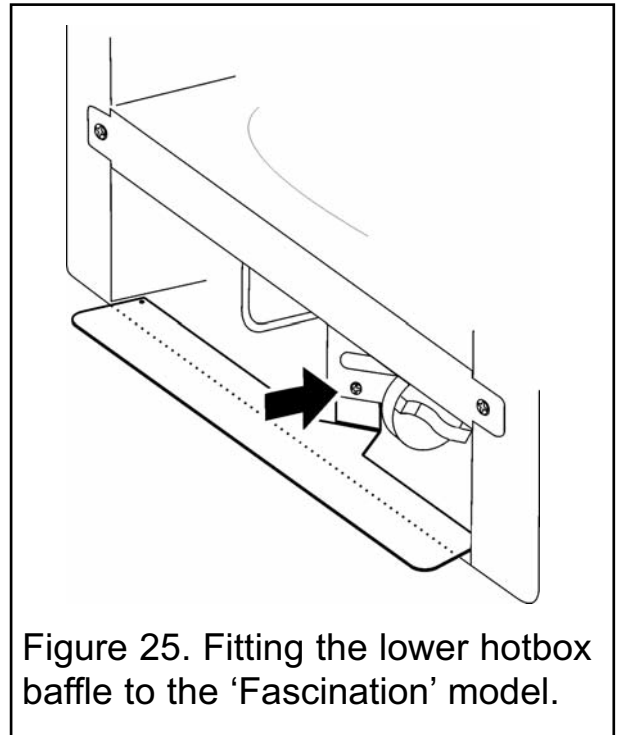

Figure 25. Fitting the lower hotbox baffle to the 'Fascination' model.
1. Locate the baffle as in figure 25.